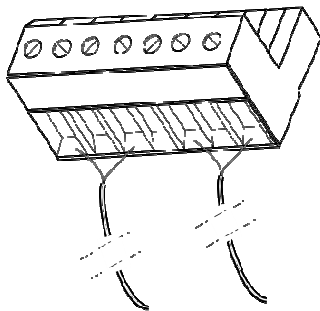

Figure 9 Output connection terminal
2. Strip 7 mm of insulation off the output cable, and connect it to the output terminal, as shown in Figure 9.